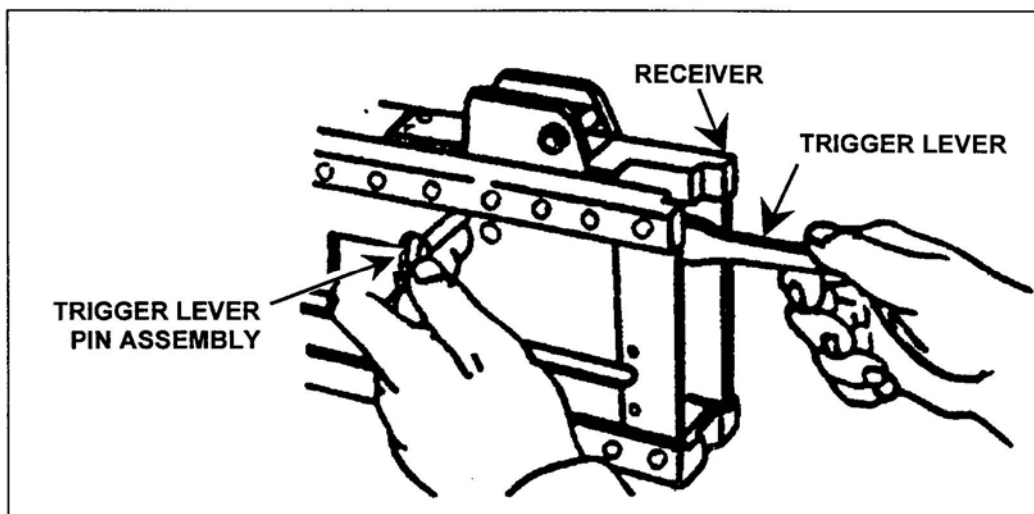

Figure 22. Removal of the trigger lever pin assembly and trigger lever.
- (3) Raise the loop of the trigger lever pin and rotate it into a vertical position. Reach inside the receiver, grasp the trigger lever, and remove the trigger pin assembly and trigger lever (Figure 22).